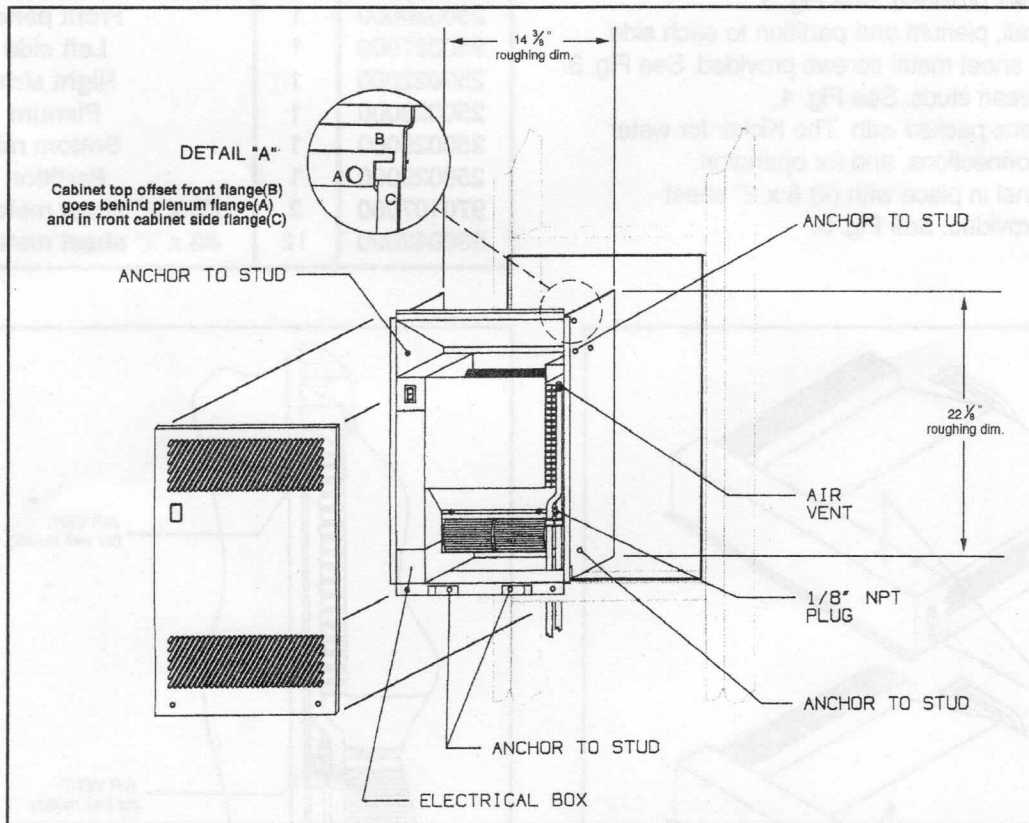

Figure 4. Wall installation
5. Mount unit between studs. See Fig. 4.